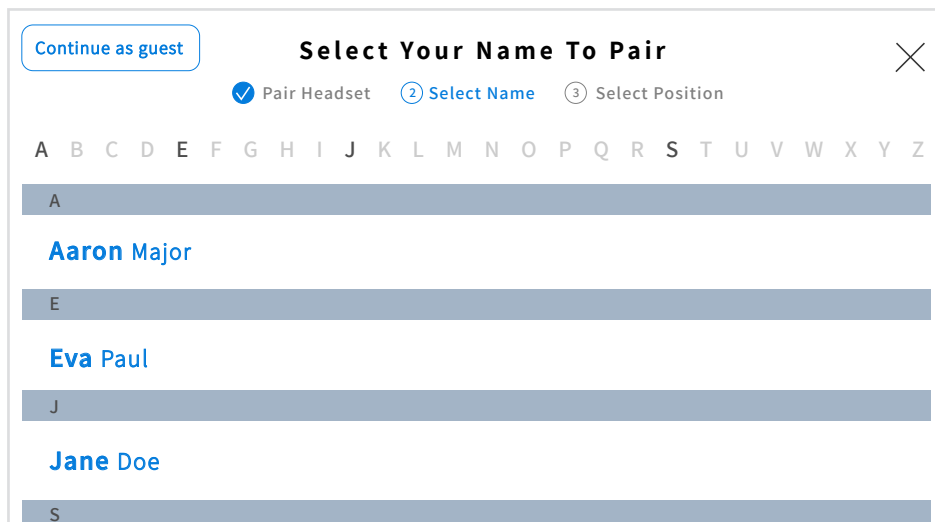

Fig. 1.22
- ** The person you are calling must be enrolled in the Crew Profile directory and wearing a headset. See Fig. 1.22 for example. You cannot call an individual if they are using the headset but not enrolled (i.e., the user selected “Continue as guest” when pairing). First names, last names, or full names can be used. For example, if there are two crew members with the same first name, then the headset will prompt you to use the last name of the person you wish to talk to. The receiver must tap the Action key () on their headset to answer. To end the call, either person can tap the Action key () and exit this state.
If there is an existing Crew Profile, then the **Select Your Name To Pair** dialog opens (see Fig. 1.22). Tap on your name if it already exists (names are listed in alphabetical order, so you may have to scroll down the list to find it), or tap on the **Continue as guest** option in the upper left corner if you don't have a profile.